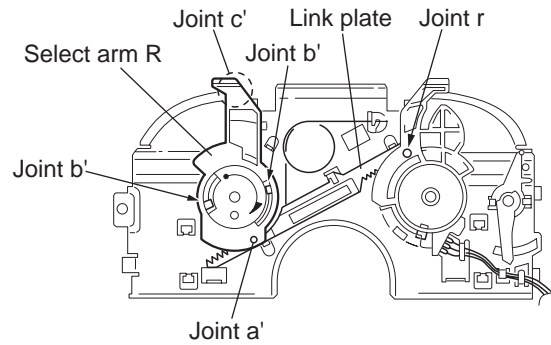

Fig.27
**(See Figs.27 and 28)**
(1) Bring up the select arm R to release from the link plate (joint a') and turn as shown in the figure to release the two joints b' and joint c'.
(2) Move the link plate in the direction of the arrow to release the joint d'. Remove the link plate spring at the same time.